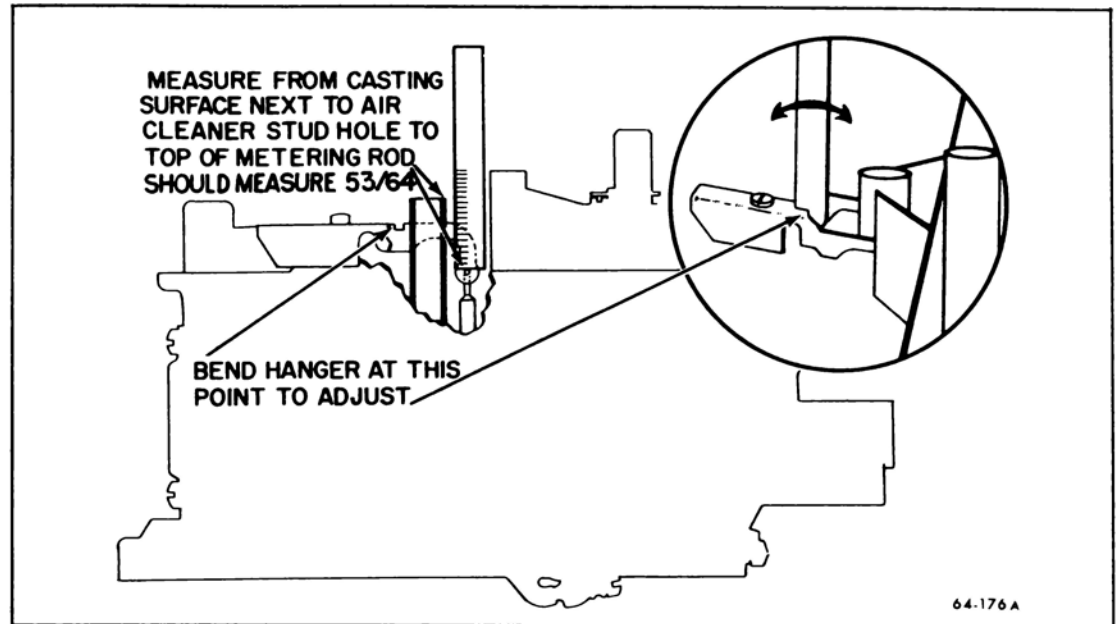

Figure 64-46—Secondary Metering Rod Adjustment
1. Check secondary metering rod adjustment by measuring from top of each metering rod to top of air horn casting next to air cleaner stud hole. Measurement should be  $53/64$  in. See Figure 64-46.
2. Adjust, if necessary, by bending metering rod hanger at point shown in Figure 64-46. Make sure both rods are correctly adjusted.